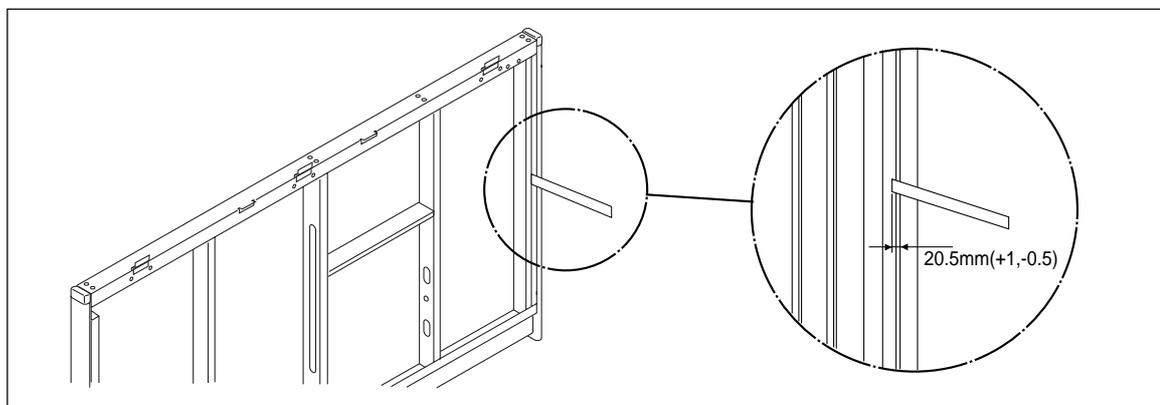

Fig. 8
8) Left and right swing adjustment of CCD Unit (See Figures 8 to 10.)
- Insert the scale to 20.5 mm (+1.0, -0.5) from the middle position of the outer frame as shown in Figure 8.